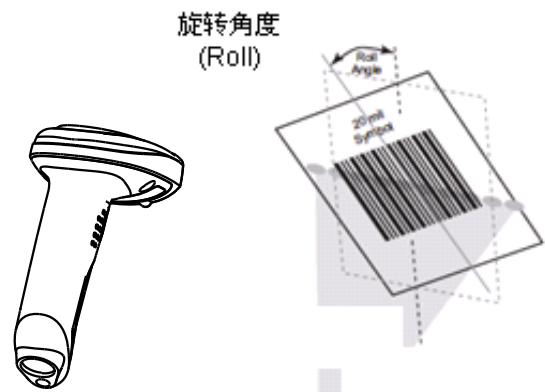

Fig. 1-12
- ✧ Roll : $\pm 30^\circ$, 0° Pitch and 0° Skew (Fig. 1-12)